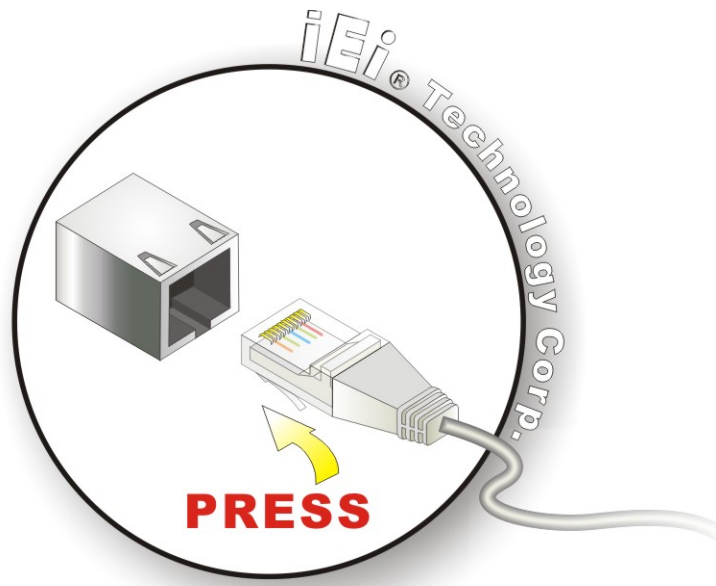

Figure 4-25: LAN Connection
Step 2: Align the connectors. Align the RJ-45 connector on the LAN cable with one of the RJ-45 connectors on the bottom panel of the AFOLUX AFL-xxA-N270 Series. See **Figure 4-25**.